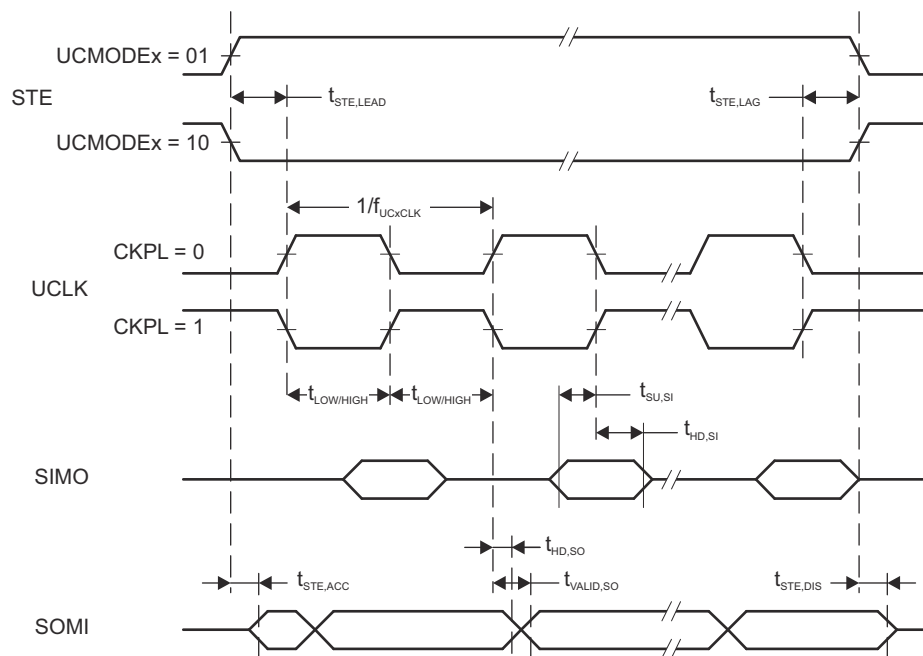

图 8-12. SPI Slave Mode, CKPH = 0
- (2) Specifies the time to drive the next valid data to the SOMI output after the output changing UCLK clock edge. Refer to the timing diagrams in 图 8-12 and 图 8-13.
- (3) Specifies how long data on the SOMI output is valid after the output changing UCLK clock edge. Refer to the timing diagrams in 图 8-12 and 图 8-13.